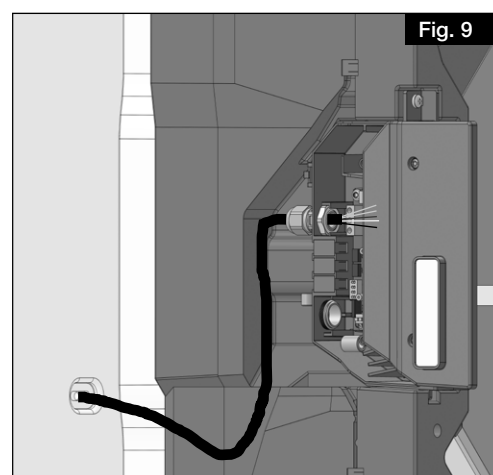

Fig. 9
4. Feed the mains cable through the cable gland into the terminal box housing (see Fig. 9). Connect the mains cable (observe wiring diagram), and if required, **connect the room sensor or external switch contact (optional)**.